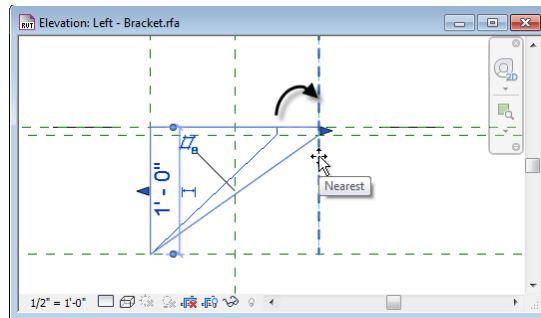

Figure 20
8. Zoom in on the Left elevation view. Use the control grip to drag the depth of the blend and snap it to the **Front** Reference Plane. **Lock it** (see Figure 20)